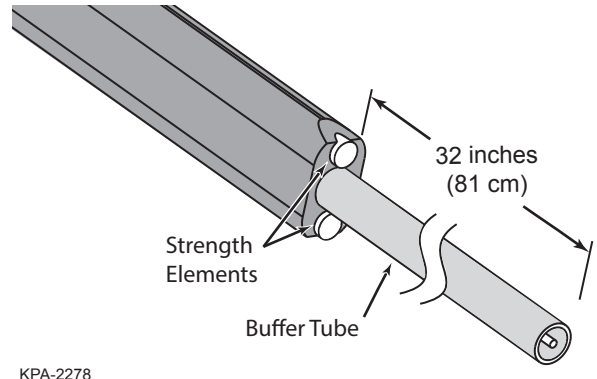

Figure 4
- Step 1:** Remove 32 in of the cable sheath and cut the strength members flush with the end of the cable sheath leaving the buffer tube intact (Figure 4).